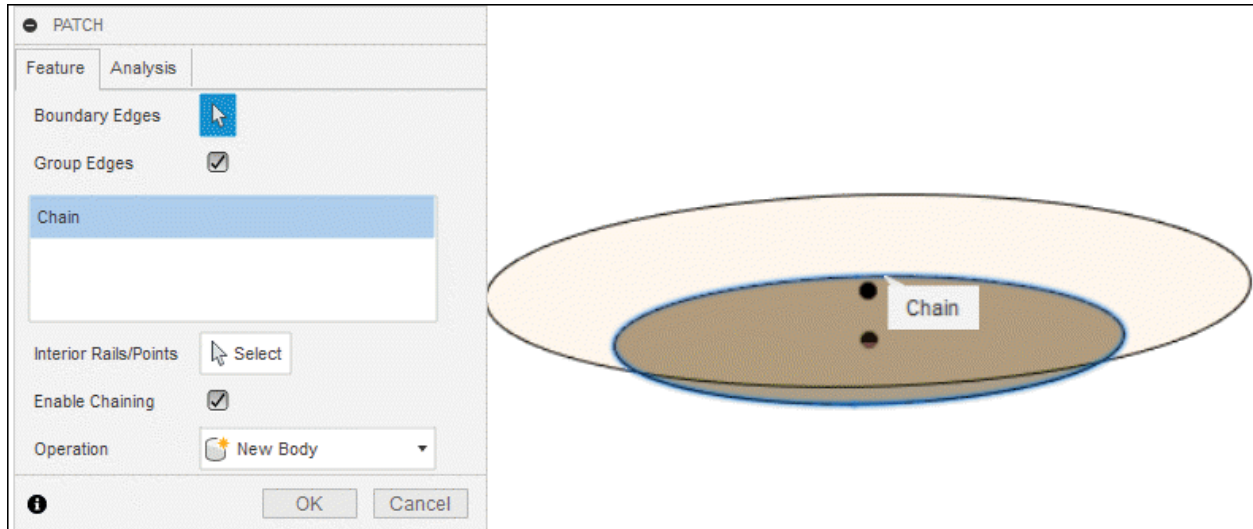

Figure-75. Creating Patch of first sketch
- After specifying the parameters, click on the **OK** button from **PATCH** dialog box to complete the process; refer to Figure-75.